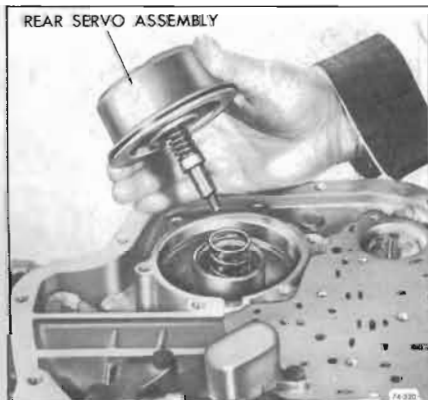

Figure 74-520
2. Remove rear servo assembly from case. See Figure 74-520.